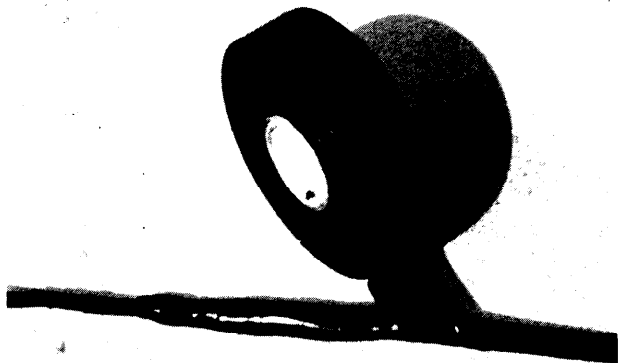

Figure 8
4.10 To complete the splice, it must be taped beginning approximately one and one-half inches back from the sealing compound at one end of the splice. Maintaining firm tension on the tape, apply the 3/4 inch vinyl mastic tape in a helical wrap, with a 70 percent overlap. Make one complete pass over the splice bundle to a point approximately one-half inches beyond the splice bundle. Reverse the direction of wrapping to where the taping began, then reverse once more to complete the taping at the center of the splice bundle (see Figure 8).